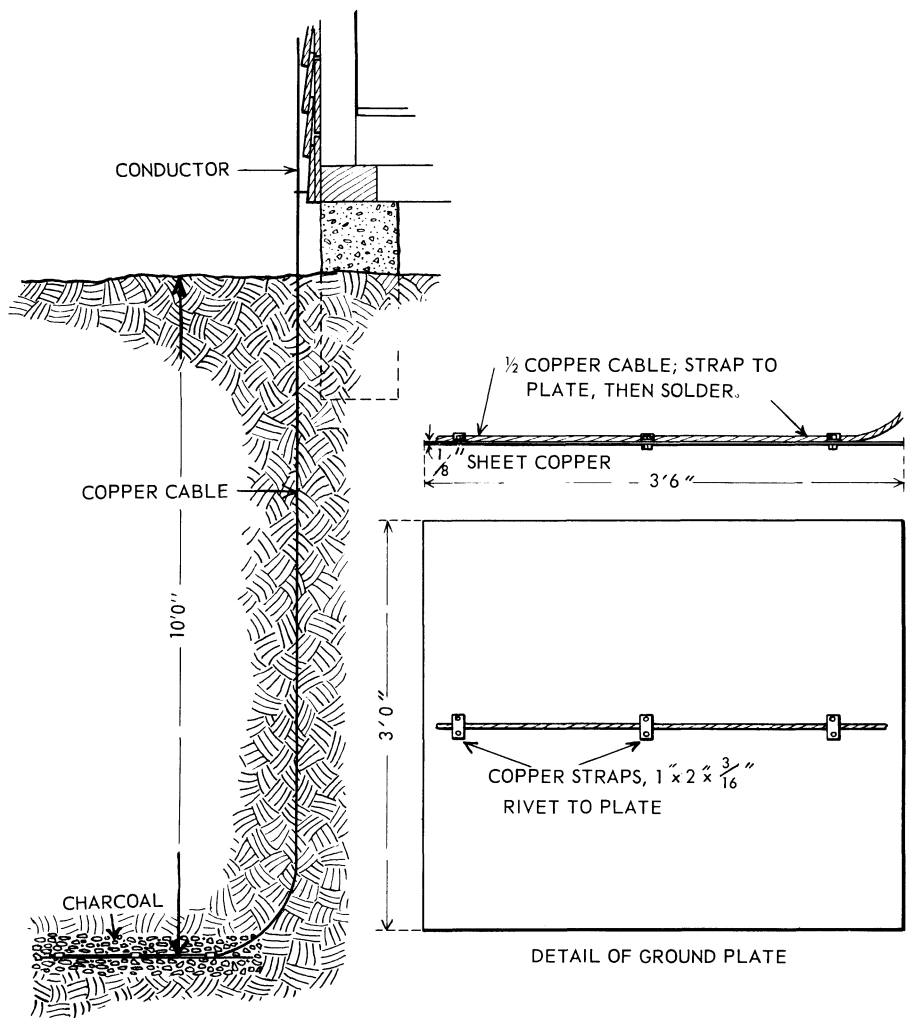

Figure 13.—Ground made by clamping a copper conducting cable to a buried sheet metal plate.
- By clamping copper conducting cable to a buried sheet metal plate (fig. 13).